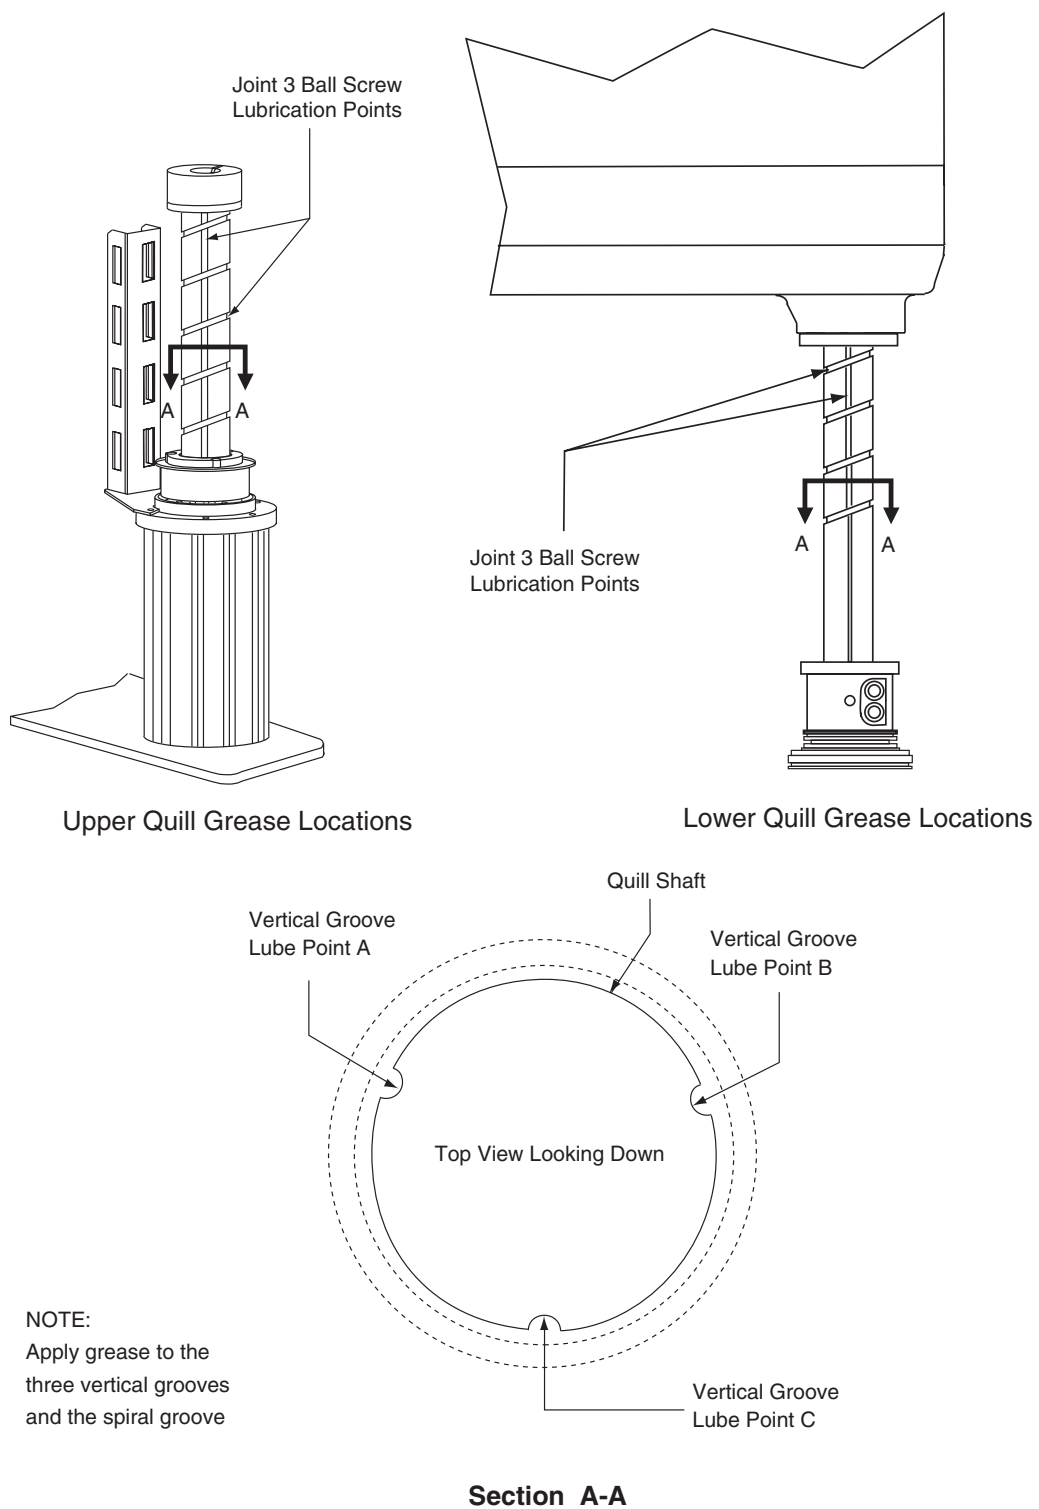

Figure 7-1. Lubrication of Joint 3 Quill
4. Using a syringe, apply a small bead of grease to the Joint 3 ball screw grooves (see Figure 7-1 on page 98).